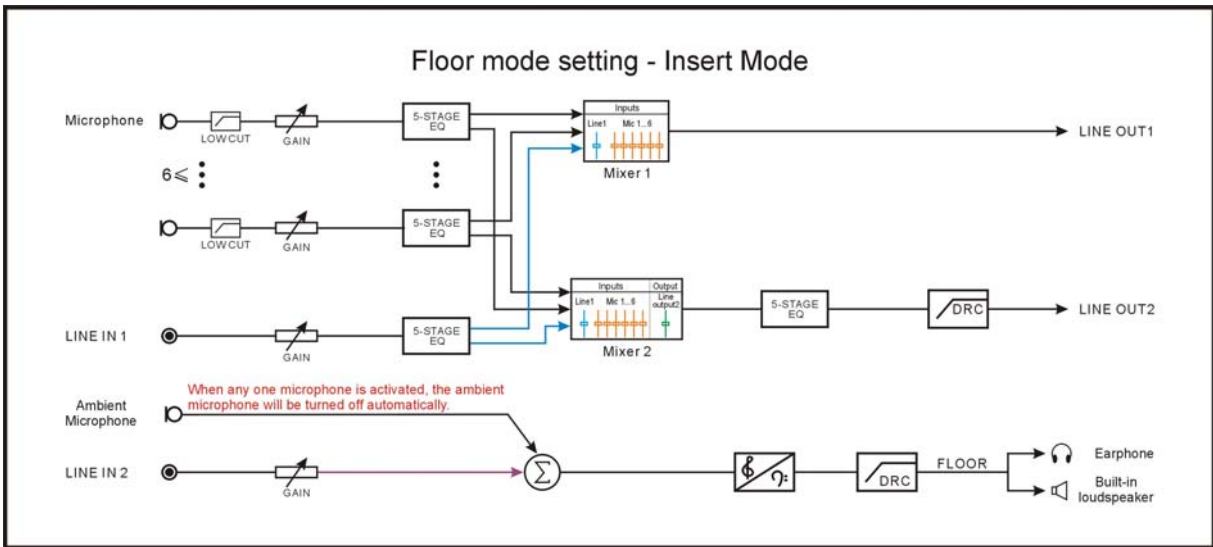

Figure 2.9 Floor mode setting - Insert Mode
- **Insert Mode:** the signal on LineIn2 of the CMU is used as floor signal, see figure 2.9.